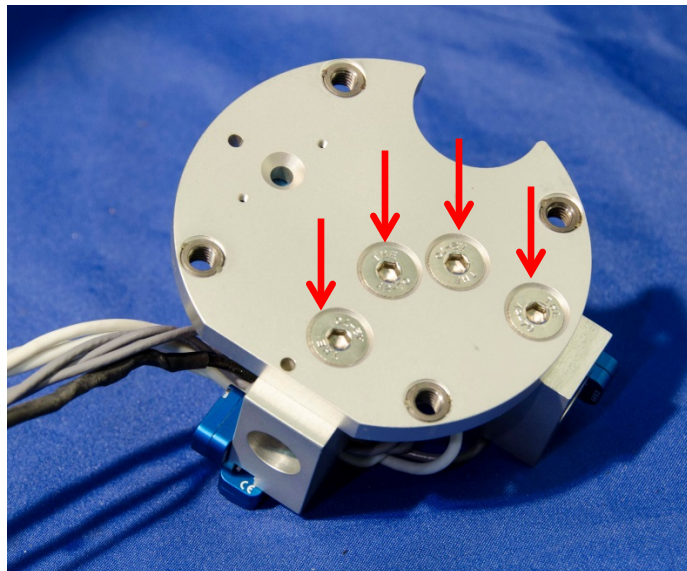

Figure 3-6. Secure the 7 accelerometer array fixture to the head accelerometer mounting plate
- 3.2.2.4 Mount the 7 Accelerometer Array Fixture to the Head Accelerometer Mounting Plate (472-1210) using four M6 x 1 x 16 FHCS on the underside of the mounting plate, as shown on Figure 3-6.